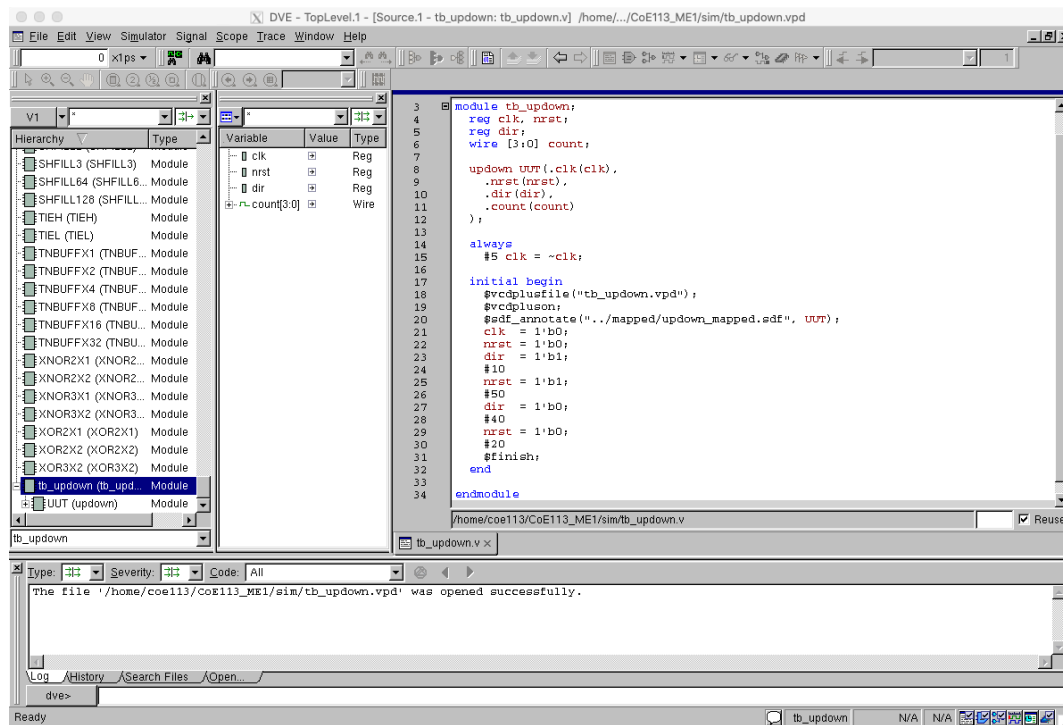

Figure 6: Testbench database hierarchy pane.
4. Invoke DVE and load the *tb_updown.vpd* database. The hierarchy pane should show more than the usual amount of modules because even unused standard cells found in the library were also compiled. Navigate the hierarchy pane to show the *tb_updown* module and expand it, as shown in Figure 6.